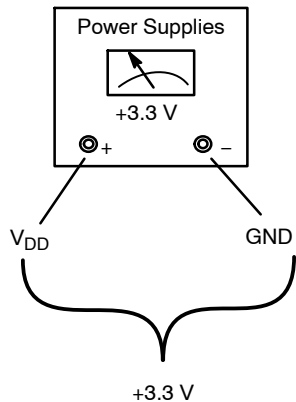

Figure 2. Single Power Supply Configuration
Connect a single power supply to the evaluation board. (see Figure 2); Connect V_{DD} to +3.3 V, Connect GND to 0 V.
- a.. Connect a single power supply to the evaluation board. (see Figure 2)